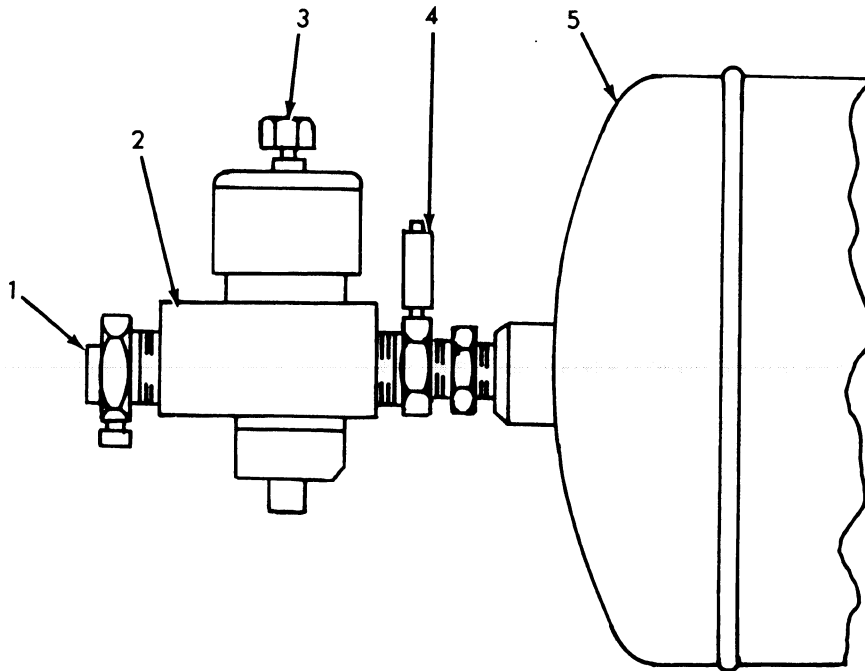

FIG. 63 PRESSURE REGULATING UNIT
The pressure regulator consists of two components. A pressure regulator, Fig. 63 (2) set at 7.5 - 8 bar (108 - 116 psi) and the unloader valve (4).